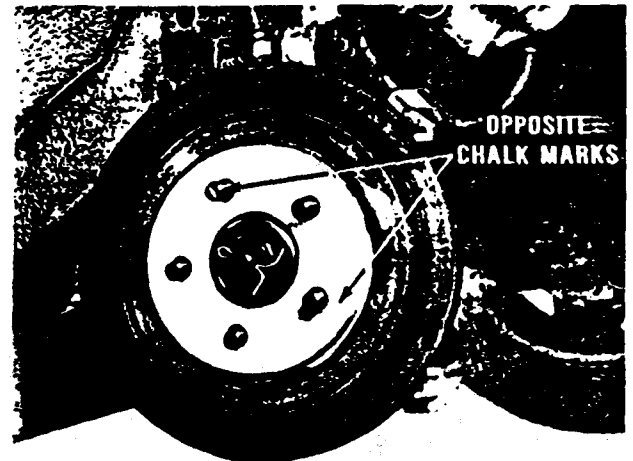

Fig. 26 — Reinstallation of disc.
10. Reinstall the disc with the two chalk marks opposite one another (Fig. 26).